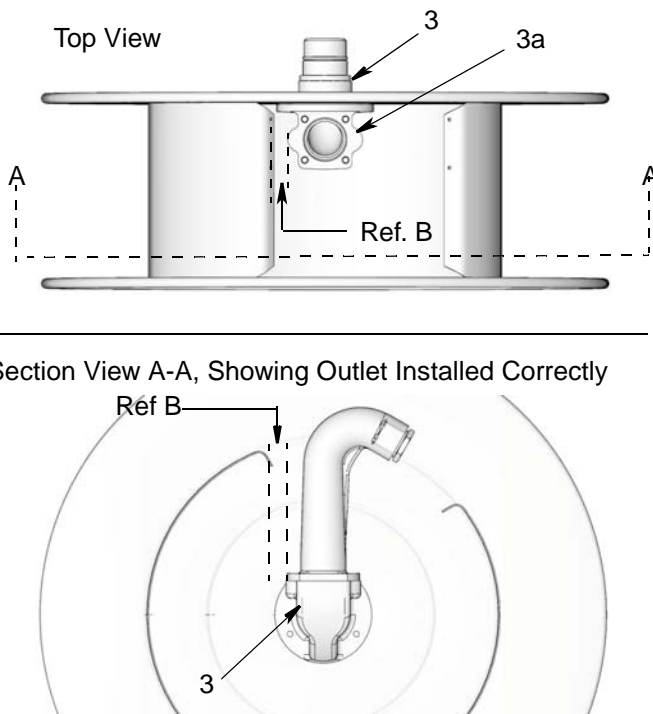
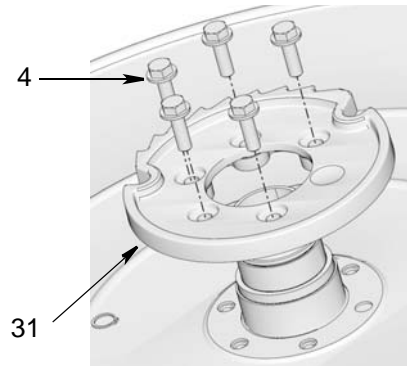

FIG. 27
FIG. 30
- Rotate the spool (2) until the flat surface (3a) of the swivel is parallel to the floor or table top and matches FIG. 27, Top View, Correctly Installed Swivel and Outlet illustration. This is how your swivel should look inside the spool when it is correctly installed.
Notice the location of swivel (3) in Ref. B in the Correctly Installed Swivel and Outlet illustration (FIG. 27). This is the correct swivel (3) installation position.
Ref. C shown in the Incorrectly Installed Swivel On the Wrong Side of the Spool illustration (FIG. 27) shows the appearance of the swivel (3) inside the spool when it is incorrectly installed.
NOTE: *Always* compare your swivel installation to the illustrations in FIG. 27 before permanently installing the ratchet (31) and bolts (4). When the swivel (3) is correctly installed in the correct side of the spool, the swivel orientation will EXACTLY match the Top View, Correctly Installed Swivel and Outlet illustration as shown with the swivel facing UP.
- b. Install bolts (4) to secure ratchet (31) to spool (FIG. 30). Before tightening bolts, verify swivel (3) is installed in the correct orientation as shown in FIG. 27, page 19. Wrench tighten bolts. Then torque to 25 to 35 ft. lbs (33.9 to 47.45 N.m).